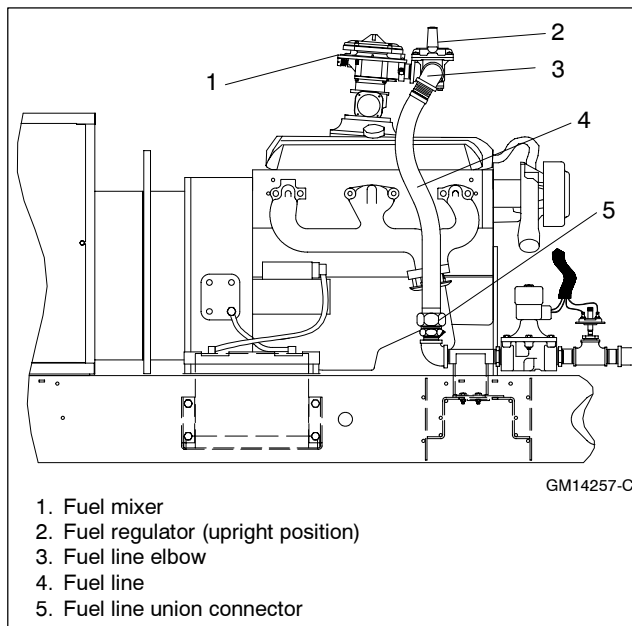
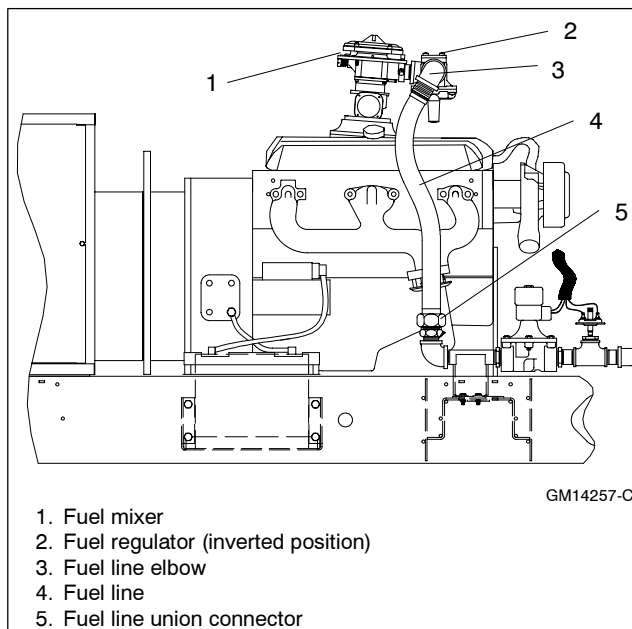

Figure 1 Natural Gas Fuel System Configuration
Figure 2 LP Gas Fuel System Configuration
See Figure 1 and Figure 2. Illustrations show the 50/60 kW models—the 30-45 kW and 80/100 kW models are similar.
3.4 Disconnect the fuel line at the union connector. See Figure 1.